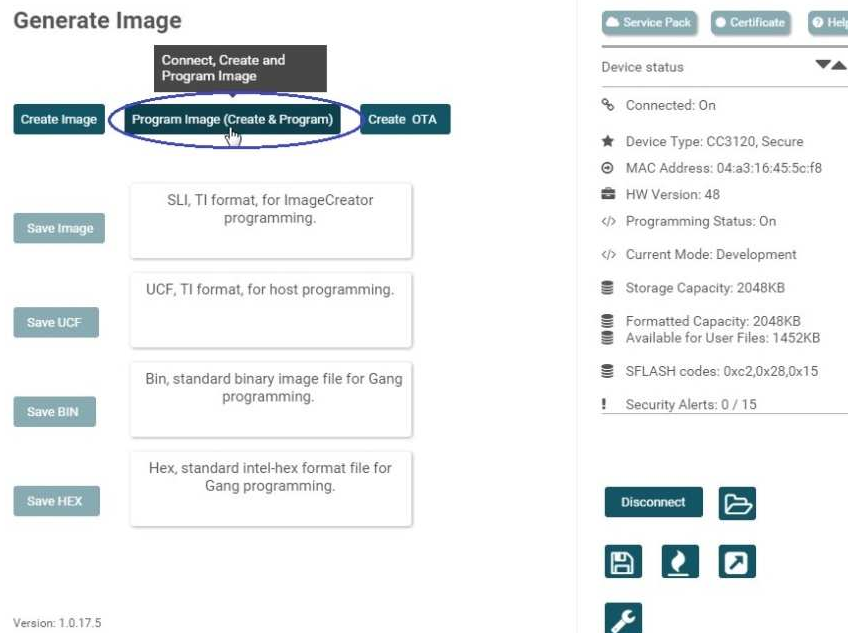

Figure 14. UniFlash Program Image
12. Click the center *Program Image (Create & Program)* button to create the image and start flashing it (see Figure 14). This operation may take a while to complete. Once the process is finished, a confirmation dialog appears.